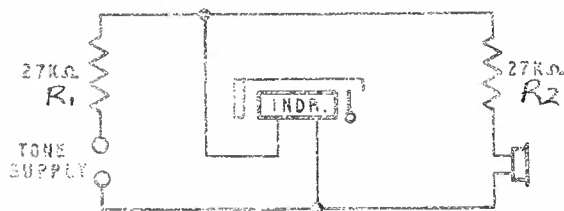

FIG. 1.
STEP 1. Connect the circuit as shown in Fig. 1, using a modern type clearing indicator. Note the volume of tone in the receiver.